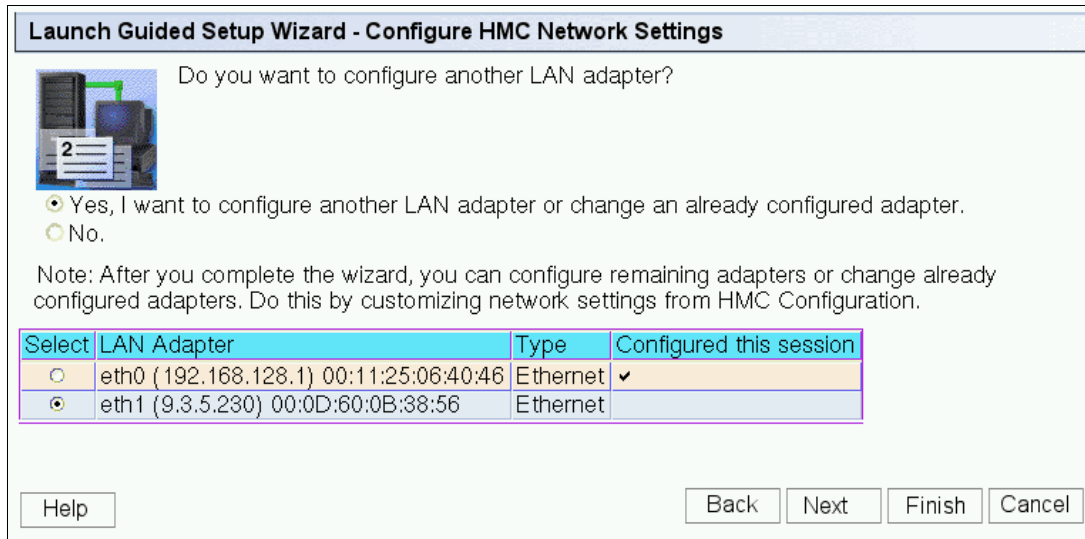

Figure 3-10 Launch Guided Setup Wizard - Configure HMC Network Settings
11. The Launch Guided Setup Wizard - Configure HMC Network Settings panel is displayed (Figure 3-10). This step completes the network configuration for LAN adapter eth0 as a private network. We can proceed with network configuration for LAN adapter eth1 as an open network.